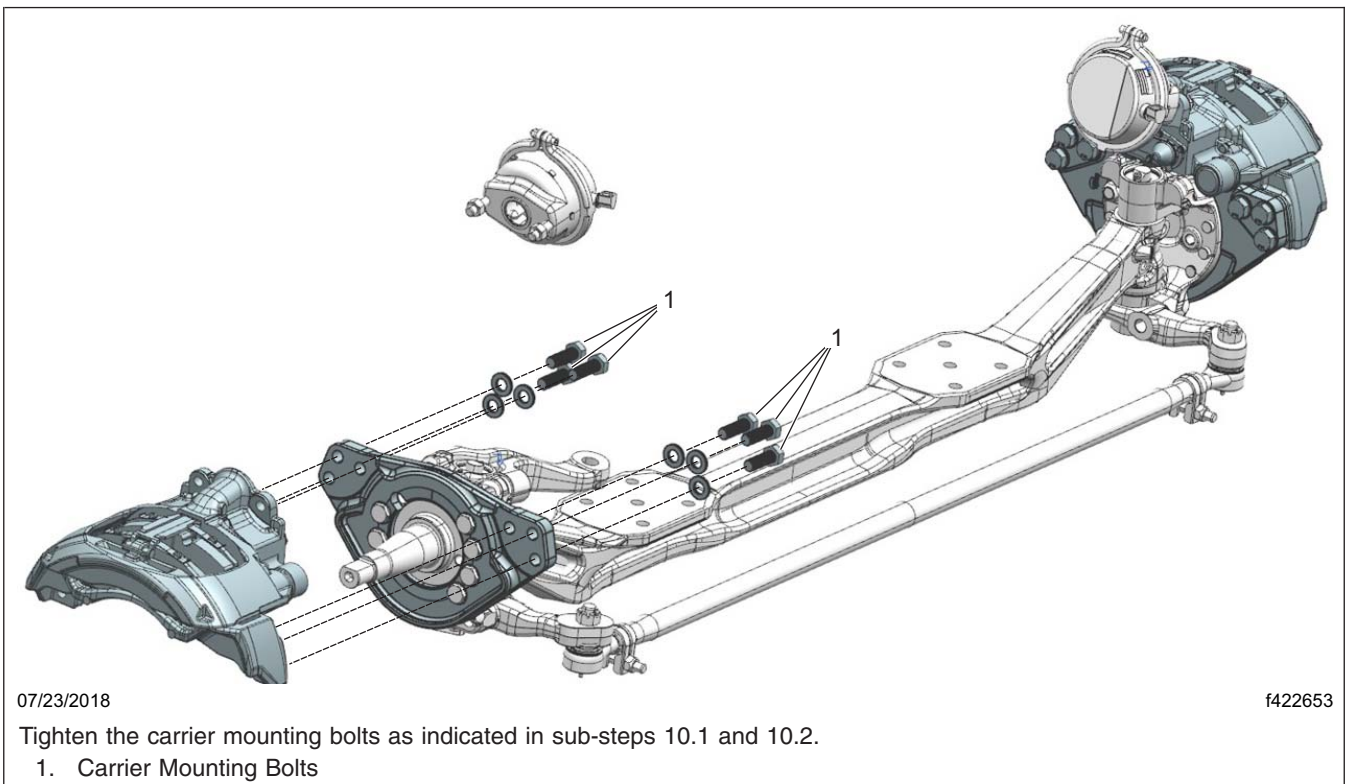

Fig. 1, Bendix Axial Mounted Caliper
6. Align each caliper/carrier assembly with the rotor by pushing the caliper against the shelf on the torque plate, then install the caliper/carrier assembly using new caliper mounting bolts. See Fig. 1.
7. Tighten the carrier mounting bolts in two steps as follows. See Fig. 1.
NOTE: The Meritor axial mounted caliper is similar to the Bendix axial mounted caliper shown in Fig. 1.
- 7.1 Start on one side of the caliper and tighten all of the bolts 45 ± 5 lbf·ft (61 ± 7 N·m). Then tighten the bolts on the other side of the caliper 45 ± 5 lbf·ft (61 ± 7 N·m). See Fig. 1.